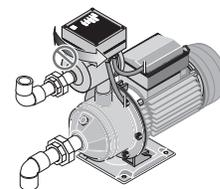

Figure 4 – DO NOT try to turn the Automatic Pressure Controller. It is aligned at the factory and twisting it will break the glue joint and cause a leak
8. Install the elbows in the main water supply line. See Figure 4.